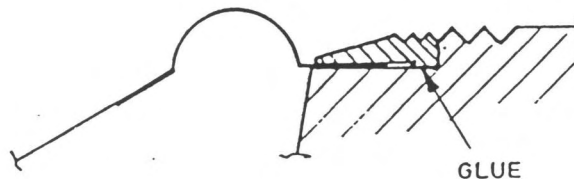

FIG 2
4. To replace unit reverse procedure. Glue trim ring in position with contact adhesive or clear solvent adhesive E.G. clear BOSTIK. NOTE glue only on back step on trim ring. SEE FIG 2.